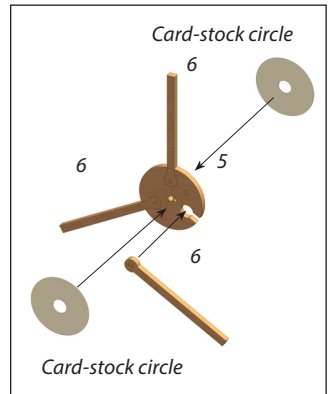

Figure 2
4. Glue the rounded end of each Part 6 into one of the holes around the perimeter of Part 5 (Figure 2).
5. When dry, glue a card-stock circle centered over Part 5. Press it firmly down and turn it over. Repeat with the other circle (Figure 2).